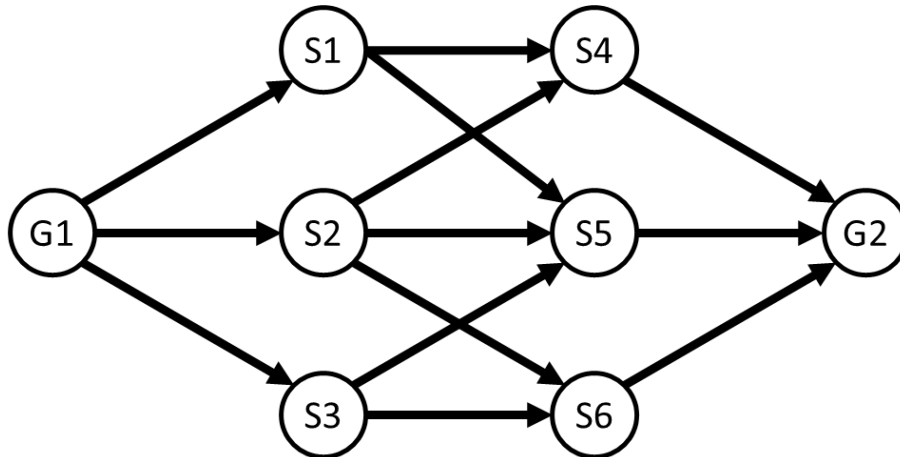

Figure 1 – Communications network schematic
- Q2** As part of the development phase of a small satellite communications network, an assessment is made of the reliability of the network after a period of time. Figure 1 below provides a schematic indicating the potential flow of information between ground station 1 (G1) and ground station 2 (G2) via six satellites (S1-6). The arrows in this schematic represent a one-way flow of data between each ground station i.e. data can flow from S1 to S5 but not from S5 to S1.